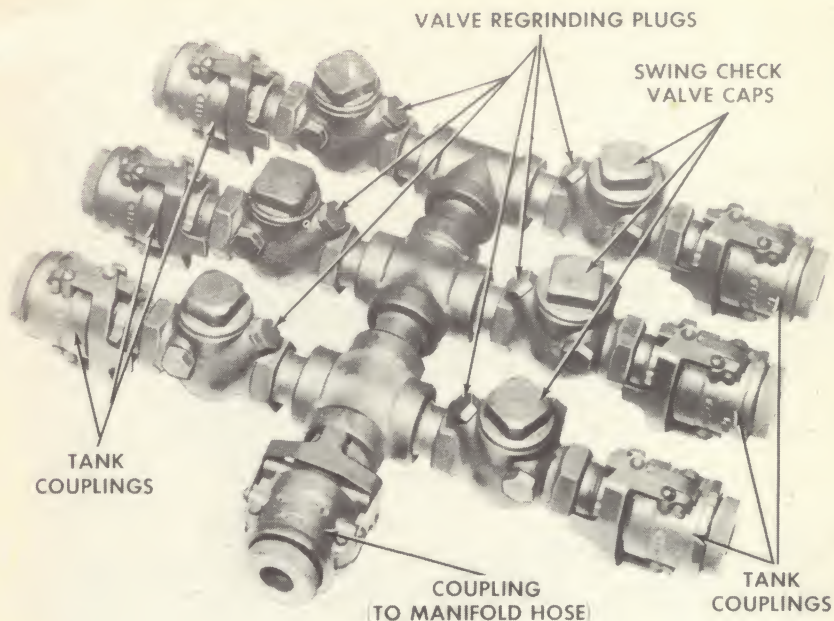

Fig. 31. Manifold assembly.
(1) Manifold body. The body includes two bronze crosses and one bronze tee which are silver brazed to short nipples and thence to six bronze swing check valves (fig. 31). The central cross is connected to the outer cross and the tee by two silver-brazed nipples. Nipples, with 3/4-inch N.P.T. thread outlets, are silver brazed to each of the six check valves and to the six outlets of the crosses and tee. An additional nipple, with 3/4-inch N.P.T. threaded outlet, is silver brazed to the remaining outlet of one of the crosses. All nipples are made of 3/4-inch extra strong brass pipe.
(2) Couplings. Seven couplings are screwed on the outlets of the manifold body (fig. 31). The couplings are interchangeable with the coupling on the manifold fuel hose assembly and with those on tank groups of M2-2 portable flame throwers. These couplings are quick-connecting and provide a pressure tight and liquid tight seal if in proper condition.
(3) Coupling plugs. Seven coupling plugs are provided. Each plug closes off an outlet of the manifold assembly when it is not desired to connect a hose to the outlet. The plugs are interchangeable with the coupling plugs furnished with M2-2 portable flame throwers.
b. Removal. (1) Coupling plugs or hose assemblies may be removed from couplings by opening couplings (par. 12).